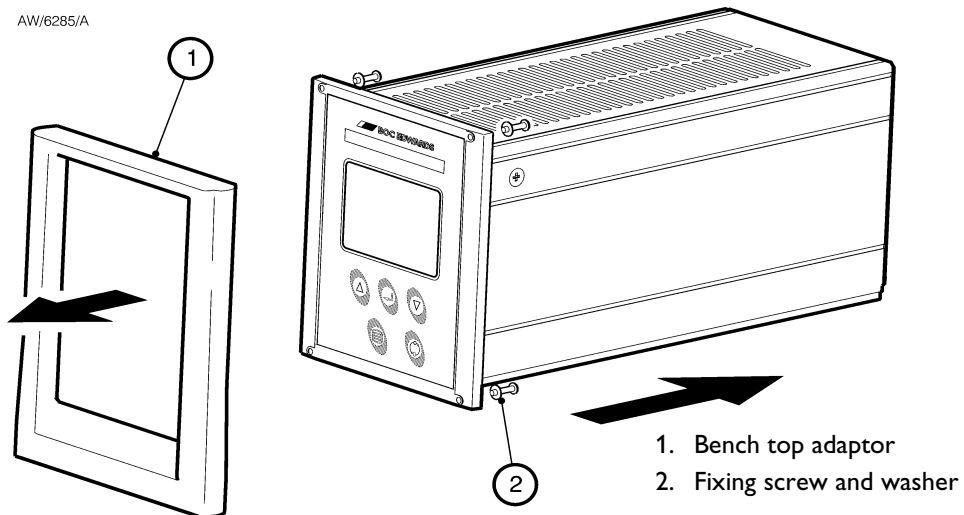

Figure 7 - Front panel removal
If a Controller is fitted in a rack, cabinet or panel, follow the directions given in Figures 7, 8 and 9.
- Remove the bench top adaptor (Figure 7, item 1) by removing the four screws (Figure 7, item 2).